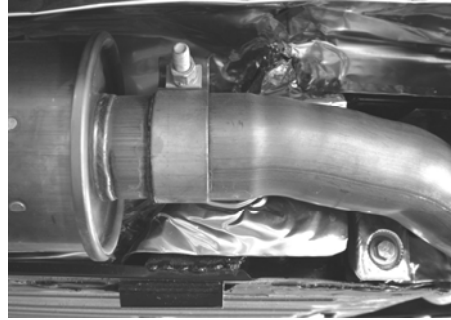

Figure 4
4. Loosen the clamps shown in figure 4 located behind each muffler assembly.
2. Loosen the clamps shown in figure 4 located behind each muffler assembly.